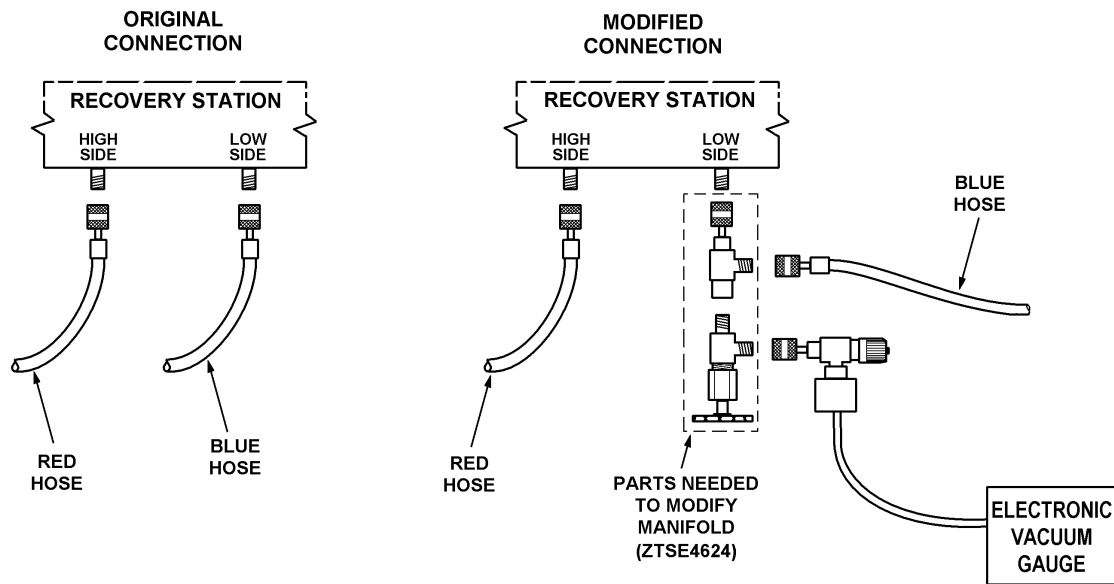

Figure 42 Connection of Electronic Vacuum Gauge
3. Connect the electronic vacuum gauge to the recovery station, at the vacuum manifold, using a valve and 'T' fittings (refer to Figure 42). Close the valve that isolates the electronic vacuum gauge from the low pressure line.
CAUTION – The electronic vacuum gauge used during the EVACUATION procedure (Figure 42) must be isolated from the refrigerant system (valve closed) before the system is charged. If the gauge is connected to the system during charging, excess pressure may damage it.